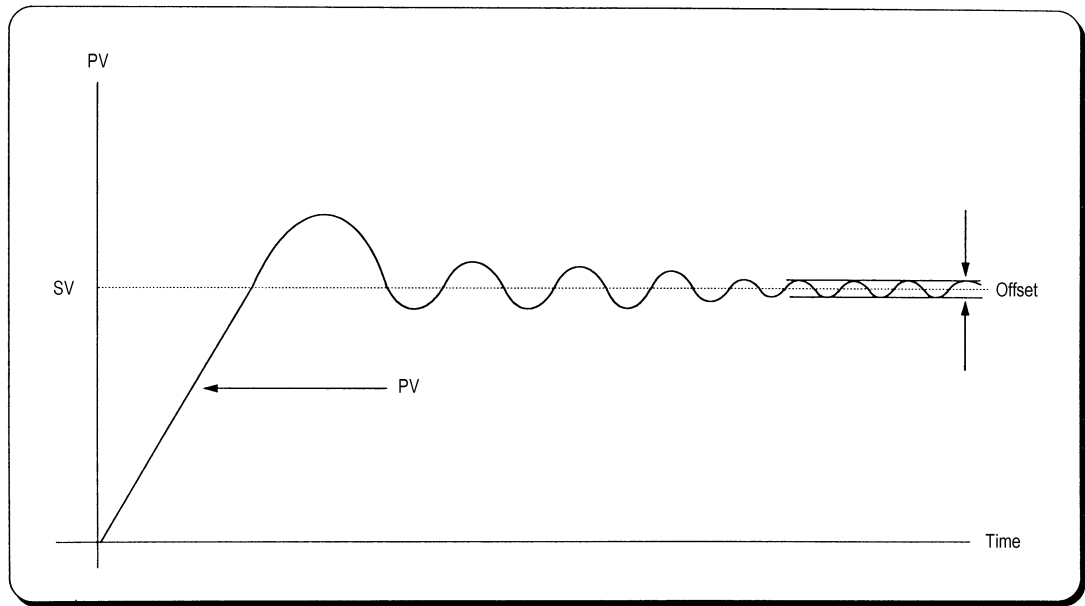

Fig. 2.2 When the proportional constant ( $K_p$ ) is large
- (d) If the Kp is too large, the PV reaches to the SV swiftly, but it may causes a bad effect like oscillations shown in the Fig. 2.2.